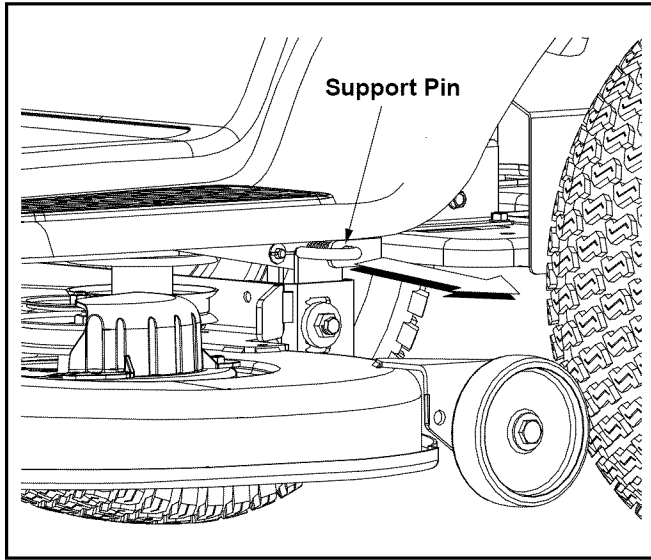

Figure 23
- Looking at the cutting deck from the left side of the tractor, locate the deck support pin on the rear left side of the deck. See Figure 23.